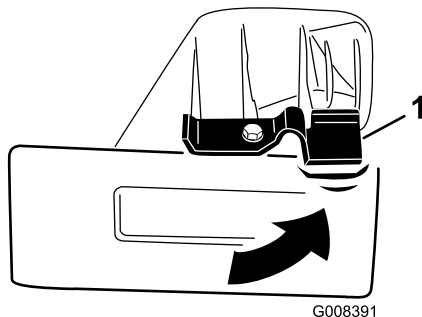

Figure 16
1. Rotate the lock counterclockwise on the mulch plug to the unlocked position (Figure 16).